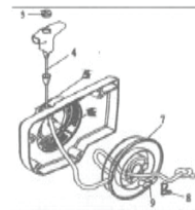

Fig 13
- Remove the spark plug cap (2) from the front end of the main cap (1)
- Remove the spark terminal (3) and the spark plug (4) one by one.
3. Replacing the starter cord (ref. Fig. 13)
- Pass a new cord through the fastening end and through the cord guide bushings (5), tie a simple knot at the end of the cord and fasten the threaded dowel (3).
- Pass the cord through the cord rotor (7) (coming from the slot located in the rotor groove) and secure it with a simple knot.
- Wind the cord clockwise around the cord rotor (7), until it remains unwound on a section of 300 mm.
- Pass the cord rotor over the starter prop (6) and turn it slightly back and forth until the anchor ring of the rewind spring is fastened.
- Replace the arrester (9) from the cord rotor.
- With a screwdriver, press the flexible clamp (8) on the starter prop over the arrester pin. Remark: The flexible clamp must be directed counterclockwise.
- Reinstall the flywheel/starter cover (1) and the four screws (2).
4. Replacing the arrester (ref. Fig. 13)